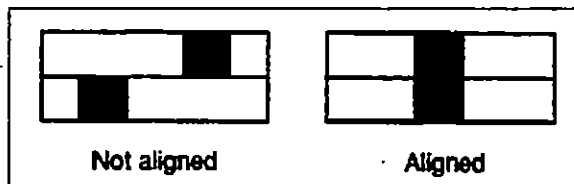

Figure 42
5. Look through the top port hole of unit A, and turn horizontal knob until split images are aligned. See figure 42.